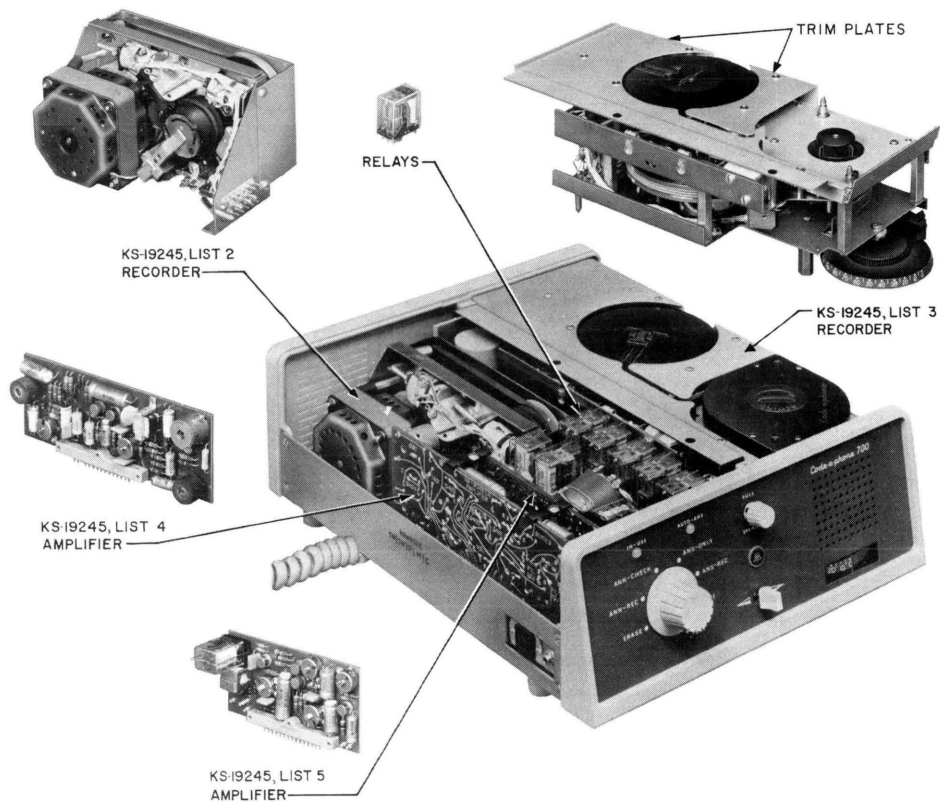

**Fig. 2—KS-19245, List 1 Telephone Answering Set, Bottom View**
- (a) Remove three retaining screws located on bottom of set (Fig. 2).
- (4) Remove three retaining screws (Fig. 2) located on the bottom of the set.